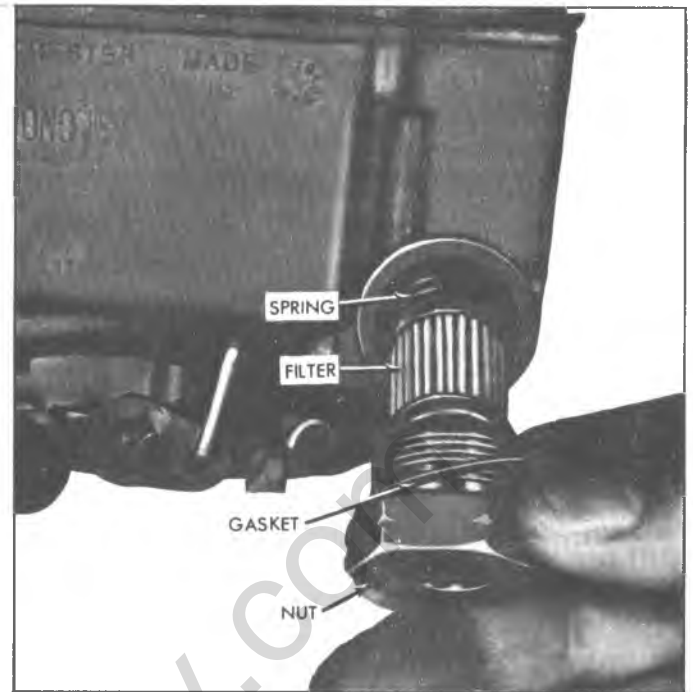

Fig. K4-Fuel Filter (Paper-Type) (Typical)
3. Remove filter element and spring (fig. K4).